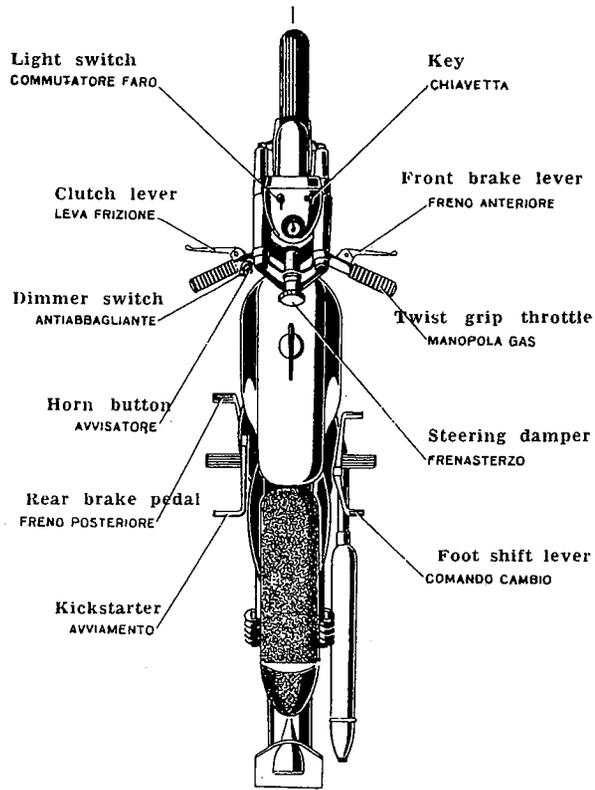

Fig. 1
- Controls are positioned as illustrated in Fig. 1.